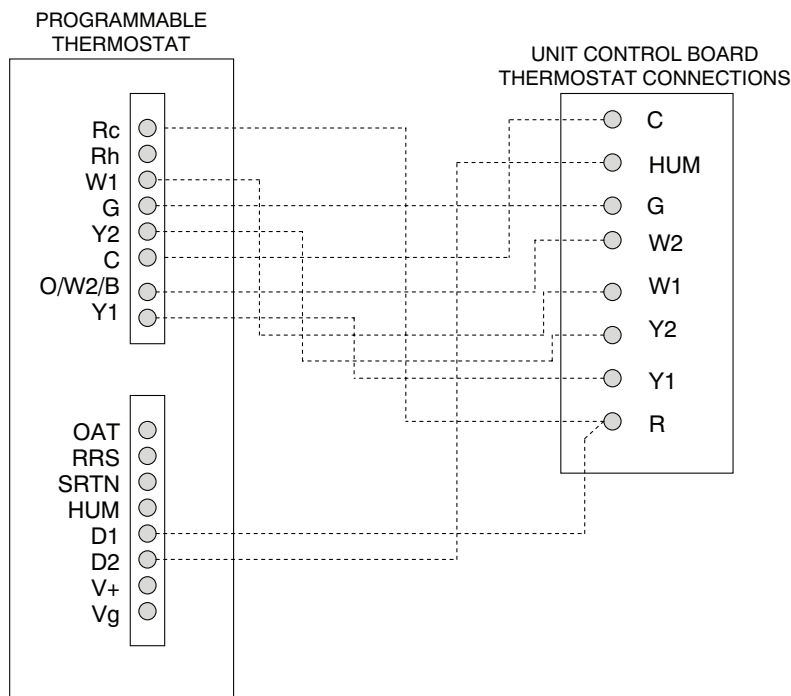

Fig. 38 — Typical Rooftop Unit with Humidi-MiZer® Adaptive Dehumidification System and Edge® Pro Thermidistat Device
3. The Thermidistat has dry contacts at terminals D1 and D2 for dehumidification operation (see Fig. 38). Connect D1 to the R terminal on the UCB. Connect D2 to the HUM terminal on the UCB. Refer to the installation instructions included with the Carrier Edge® Pro Thermidistat device for more information.